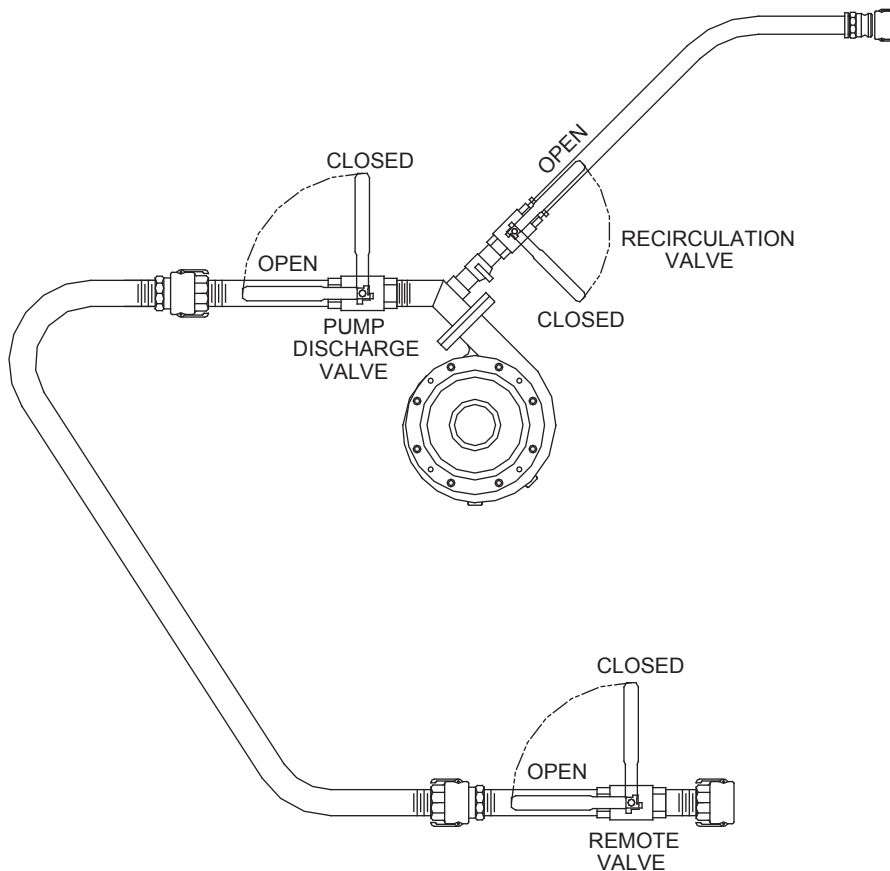

FIGURE 2
1. Discharge hoses: Discharge hoses are available in 50 ft. (15 m) and 100 ft. (30 m) lengths up to a total of 150 ft. (45 m). Hose of a greater length may adversely affect the discharge distance, and the discharge time of the HydroSeeder®. All connections are camlock quick operating fittings, including the connection to the end of the discharge piping. A nozzle is connected to the end of the hose next to the remote discharge valve. Once the hose is connected, the HydroSeeder® is ready to operate. Flow through the hose and the nozzle is controlled by the remote discharge valve. When using this valve, the recirculation valve on the HydroSeeder® **MUST BE OPEN** to allow flow at times when the remote valve is closed. See Figure 2 on page 10.
The base HydroSeeder® is equipped with three (3) independently operated ball valves to control slurry flow (see Figure 2). The first valve is the recirculation valve. An open recirculation valve allows flow back into the tank. The second valve is the pump discharge valve. An open pump discharge valve allows slurry to flow through the discharge hose. The third valve, located at the end of the discharge hose is the remote valve. An open remote valve allows discharge of the slurry onto the area being covered.